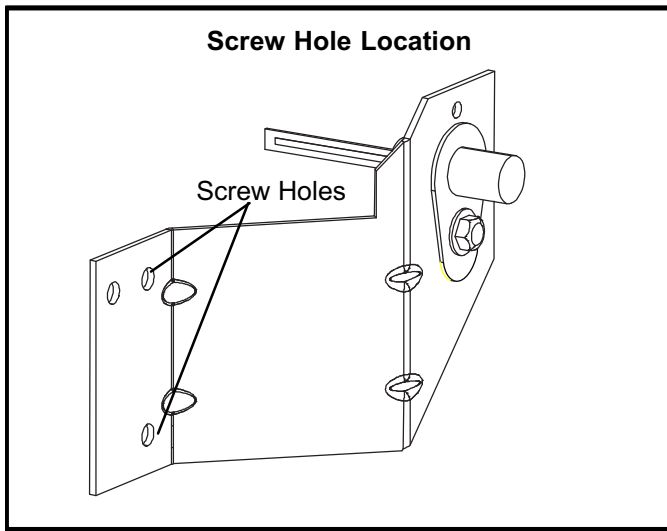

FIGURE 3
- 18 - Remove the two screws that secure the igniter bracket to the assembly. Make note of the screw holes used. See figure 3.